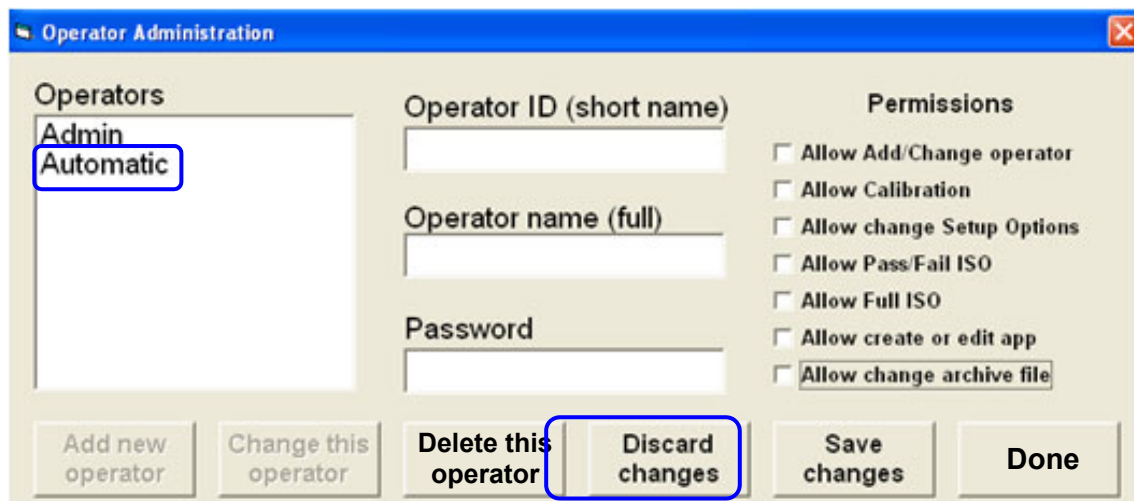

Figure 37: Click “Delete this operator”
24. Select “Automatic” from the “Operators” list (Figure 37).